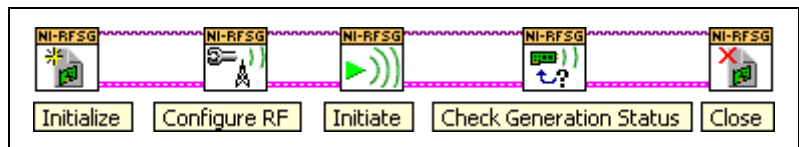

Figure 1-25. Basic NI-RFSG Block Diagram
6. Create the block diagram shown in Figure 1-25 by wiring the five core VIs on the block diagram in the order they appear in the top row of the NI-RFSG functions palette.